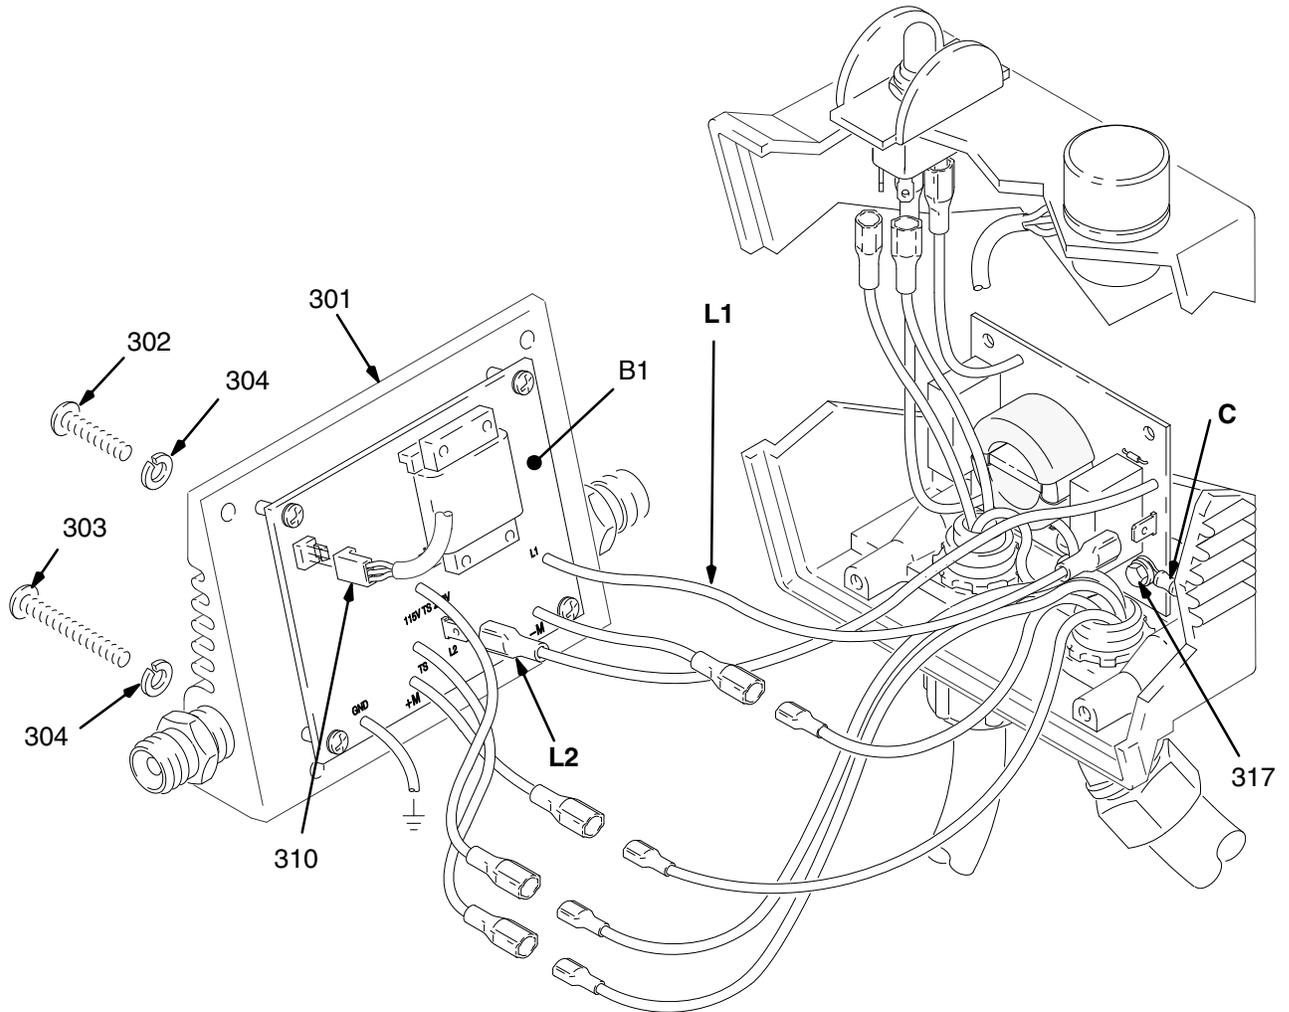

Fig. 19
3. Remove the four mounting screws and washers (302, 303, 304) from the pressure control board/cover (301). See Fig. 19.
4. Carefully remove the pressure control board/cover (301) so as not to stress the cables.
5. Remove the potentiometer cable (310) from the pressure control board/cover (301).
7. Disconnect the red motor leads from the TS terminals on the pressure control board/cover (301).
9. Loosen the earth or ground terminal screw (317) and disconnect the earth or ground lead (C).